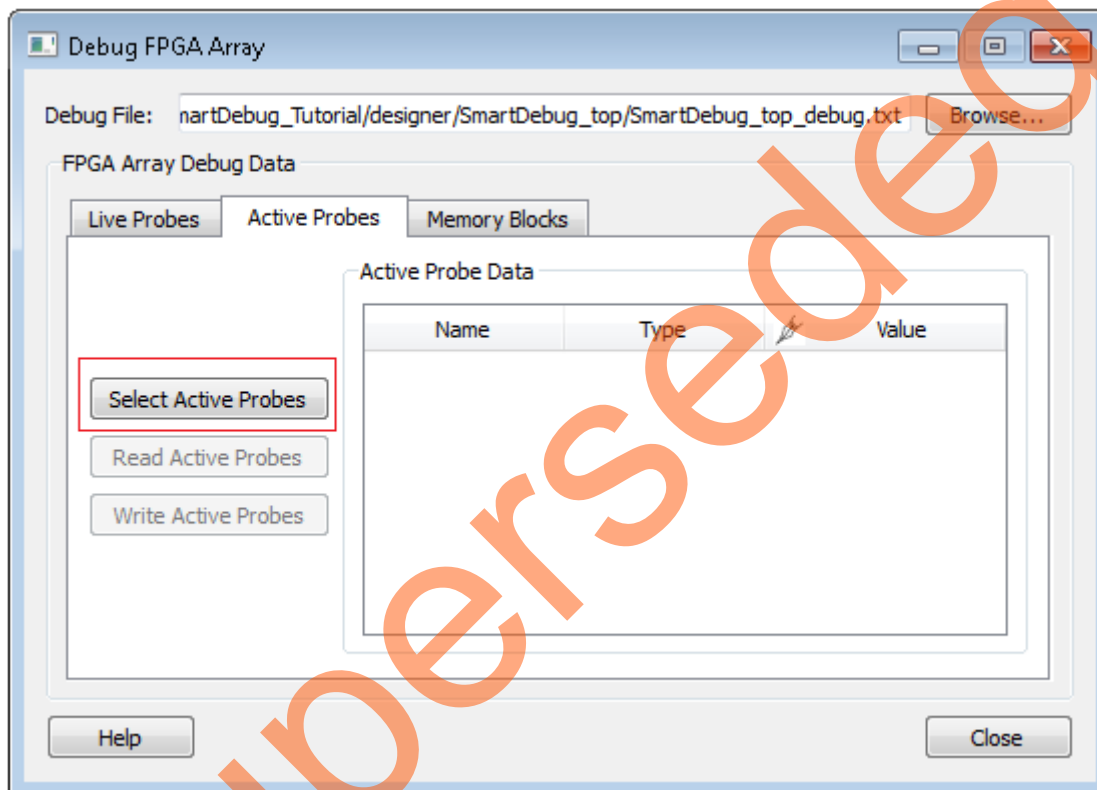

Figure 2-12 • Selecting Active Probes From the Design
2. Once inside the Active Probes tab, click on the **Select Active Probes** button to define the internal points to monitor, as shown in Figure 2-12.